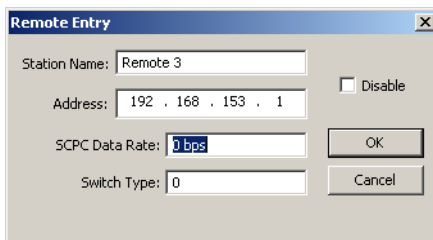

Figure G-5 Remote bandwidth entry, CDM-570/570L
3. Click the **Modify...** button to display the Remote Entry dialog shown in figure G-5. You can use the up and down arrows next to the button to change the selected remote.
4. To force a switch from ECM SCPC mode to STDMA mode, set the current value in the **SCPC Data Rate** dialog box to 0 (zero) as shown in figure G-5 then click the **OK** button.